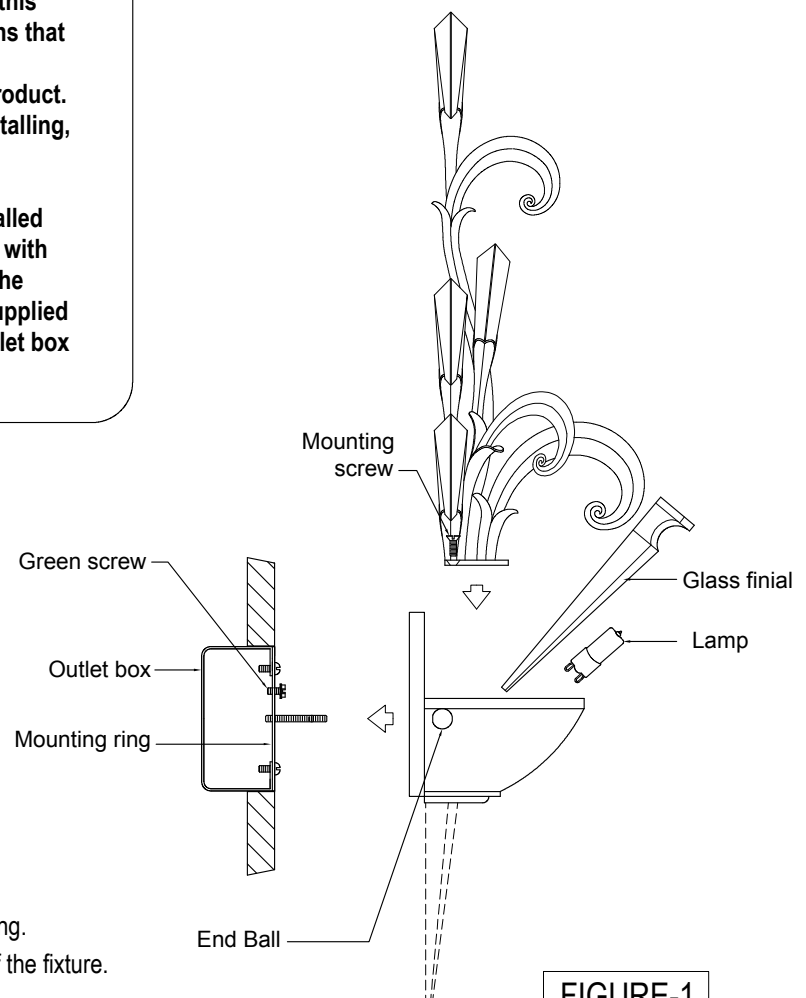

FIGURE-1
6. Using the two (2) end balls, fasten the fixture to the junction box.
9. Place the glass/metal prism.(See Figure-1)